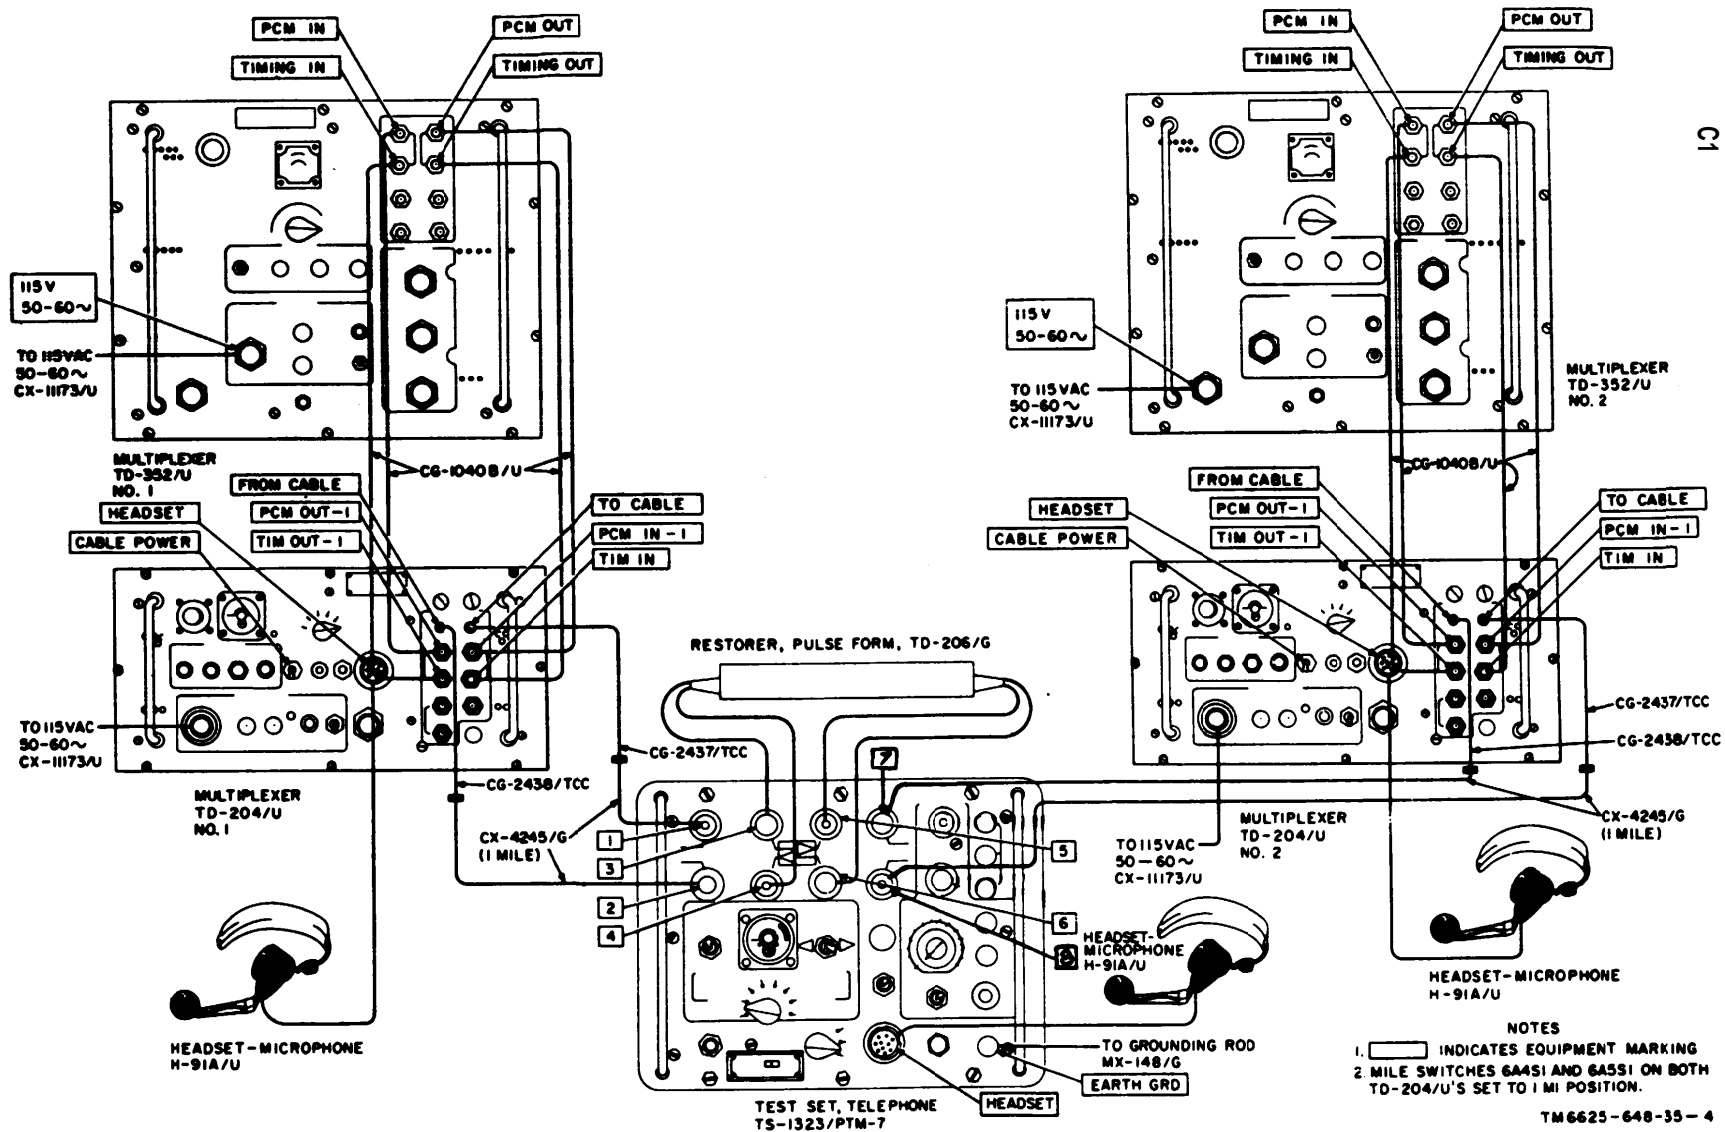

Figure 4-1. Test Set, Telephone AN/PTM-7, performance test setup, battery, order wire, and meter circuit tests.
a. To properly test the AN/PTM-7, the following inputs must be furnished: dc voltage, direct current, random pcm, order-wire signaling, and order-wire voice communication. Figure 4-1 illustrates the test equipment required to supply these inputs.
4-6. Battery, Order-Wire, and Meter Circuit Tests (fig. 4-1)
- (1) Multiplex TD-352/U (2 ea).
- (2) Multiplexer TD-204/U (2 ea).
- (3) Headset-Microphone H-91A/U (3 ea).
- (4) Cable Assembly, Special Purpose, Electrical CX-4245/G or equivalent (¼-mile reel) (8 ea).
- (5) Cable Assembly, Radio Frequency CG-1040B/U (5 ft) (8 ea).
- (6) Cable Assembly, Radio Frequency CG-2437/TCC (10 ft) (2 ea).
- (7) Cable Assembly, Radio Frequency CG-2438/TCC (10 ft) (2 ea).
- (8) Restorer, Pulse Form, TD-206/G (1 ea).
b. Test Connections and Conditions. Connect the equipment as shown in figure 4-1.